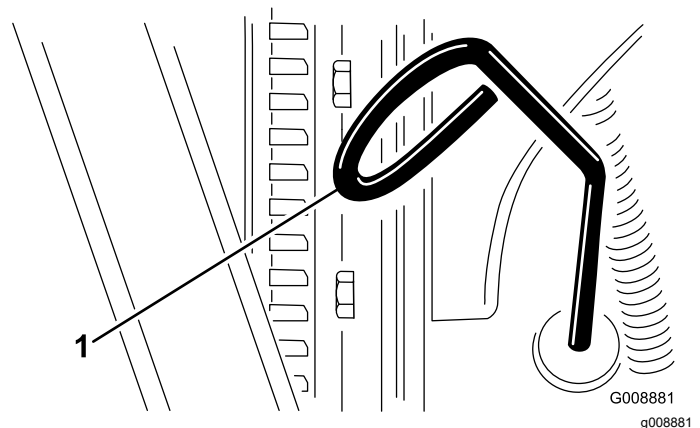

Figure 52
3. Remove the dipstick, wipe it clean, install the dipstick into the tube, and pull it out again. The oil level should be between the FULL and ADD marks (Figure 52).
- If the oil level is low, remove the fill cap and add oil until it is between the FULL and ADD marks (Figure 52).